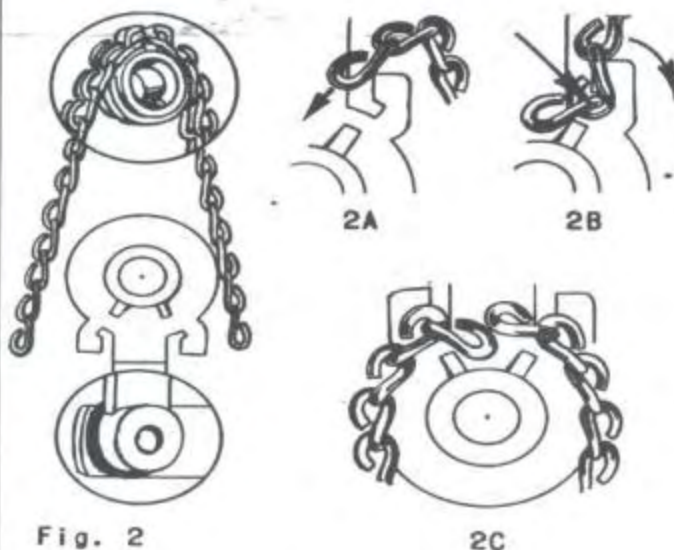

Fig. 2
1. Place lower segment, new chains and upper segment in correct position for assembly. Ball joint on lower segment and counter-sunk side of top segment must face in the same direction. (Fig. 2)